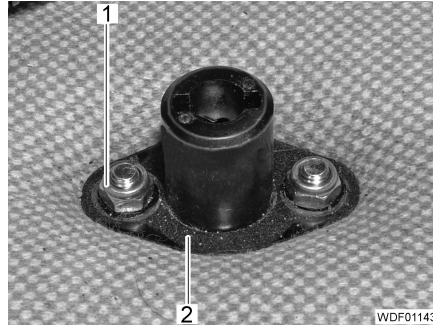

Fig. 492 Battery disconnect switch attachment
- Undo the 2 nuts (Fig. 492,1) and unscrew the 2 screws on the underside.
- Remove the metal plate (Fig. 492,2).